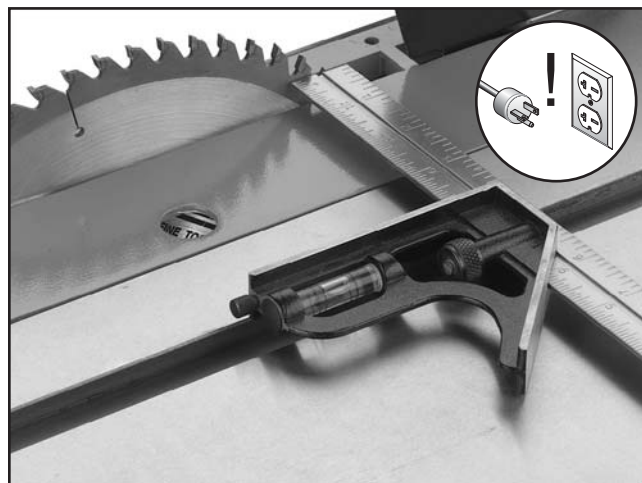

Figure 80. Example of adjusting blade to miter slot.
2. Use an adjustable square to measure the distance from the miter slot to a carbide tip on the blade, as shown in **Figure 80**. Make sure that the face of the adjustable square is even along the miter slot.